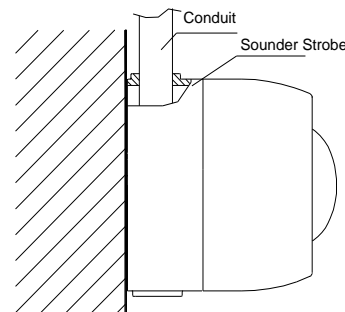

Fig. 4 (deep base)
- If the conduit is surface mounted, then only the deep base can be used and the conduit is to be installed through the knockout hole. Refer to Fig. 4.